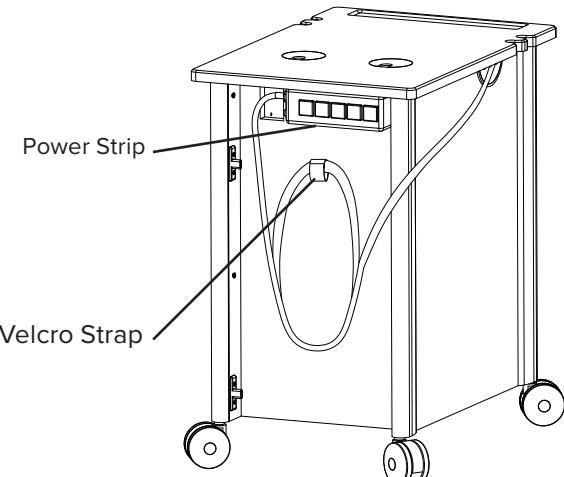

FIG 7.4
- 1.) Secure any accessory power cords from the power strip with the Velcro straps provided (Fig 7.4).